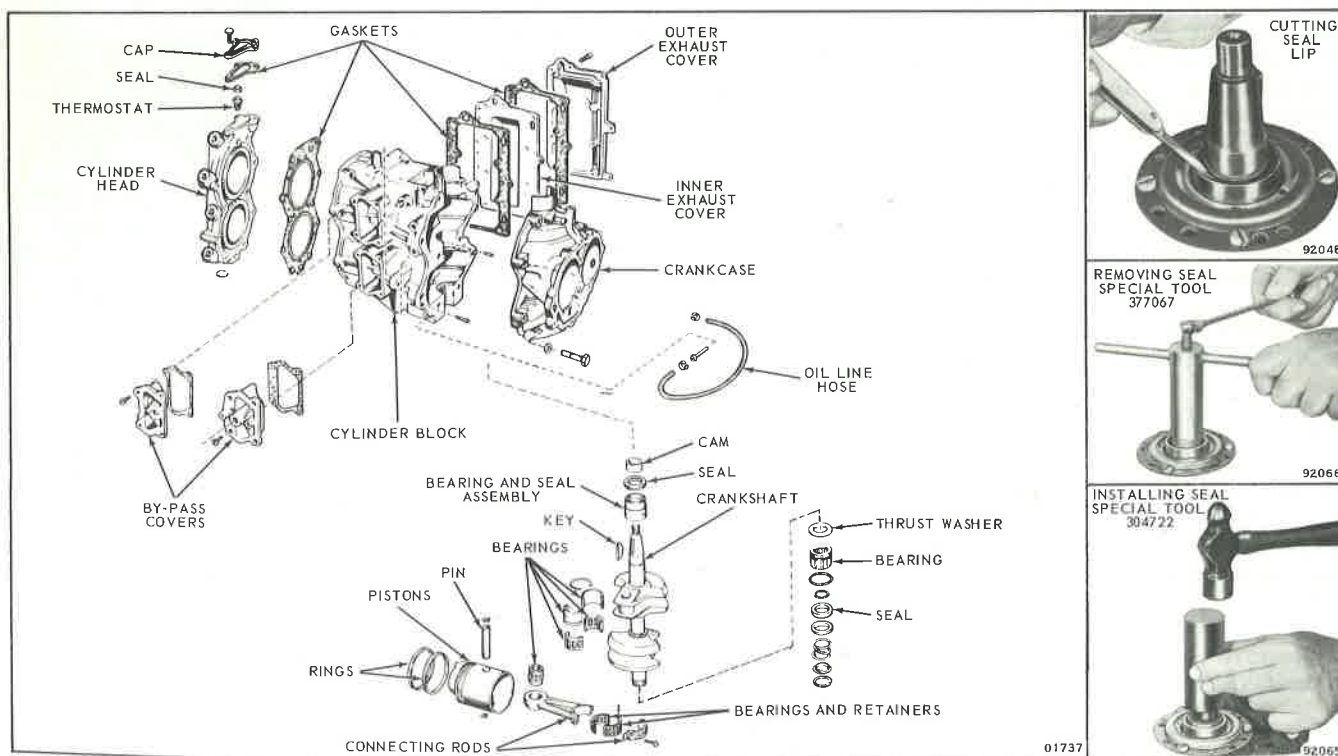

Figure 5-7. Power Head Assembly
a. Remove cylinder head and cylinder head gaskets. Remove by-pass covers and gaskets, and inner and outer exhaust covers. See Figure 5-7.
a. Install thrust washer bronze side up. See Figure 5-7.